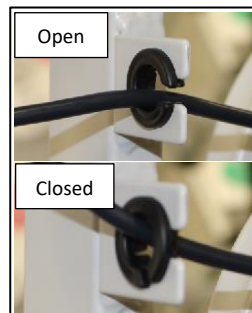

Figure 9: Cable management system
- Plug the mains plug into the wall socket and make sure all of the cables are secured in the cable management (figure 9).